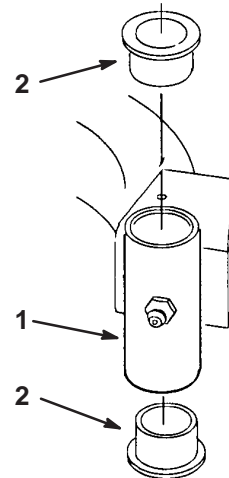

Figure 56
4. Insert a pin punch into the mounting tube and carefully drive out the bushings (Fig. 56). Clean the inside of the mounting tube.